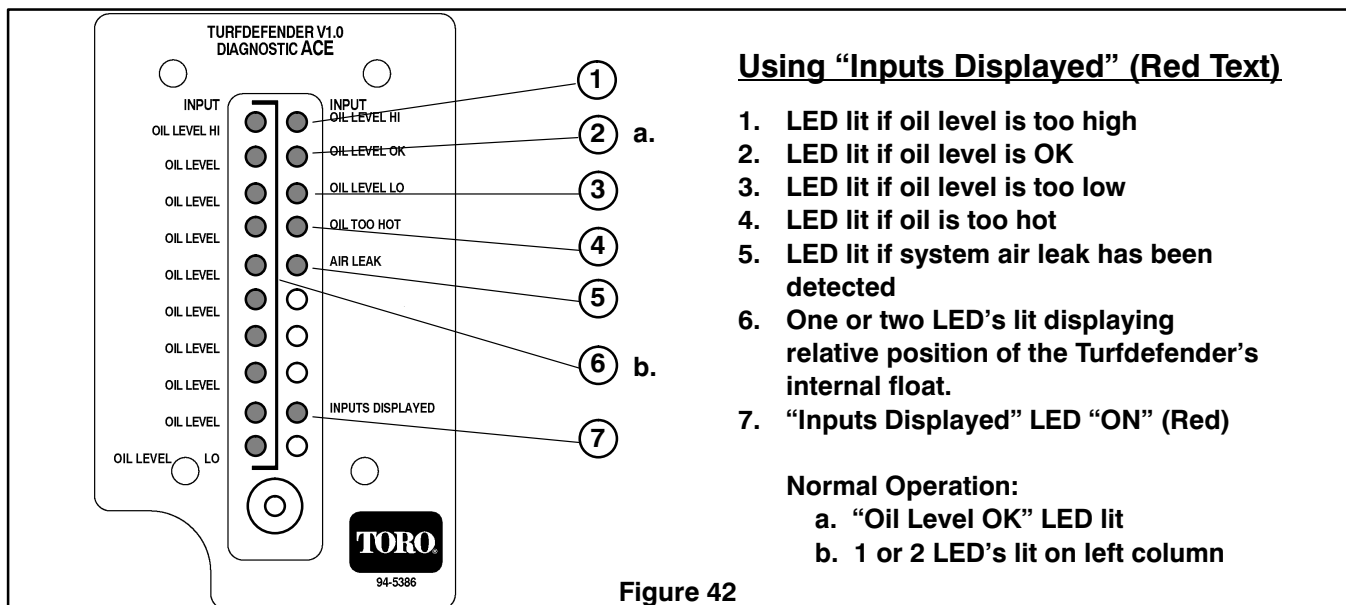

Figure 42
1. When the "Inputs displayed" LED is lit, the actual Float position (1 or 2 LED's on left row) and "Oil level OK" LED – should be displayed (Fig. 42).
1. When toggling "input", a LED should display (Fig. 42) any of the following problems diagnosed by the TurfDefender:
Dupe old figure 42